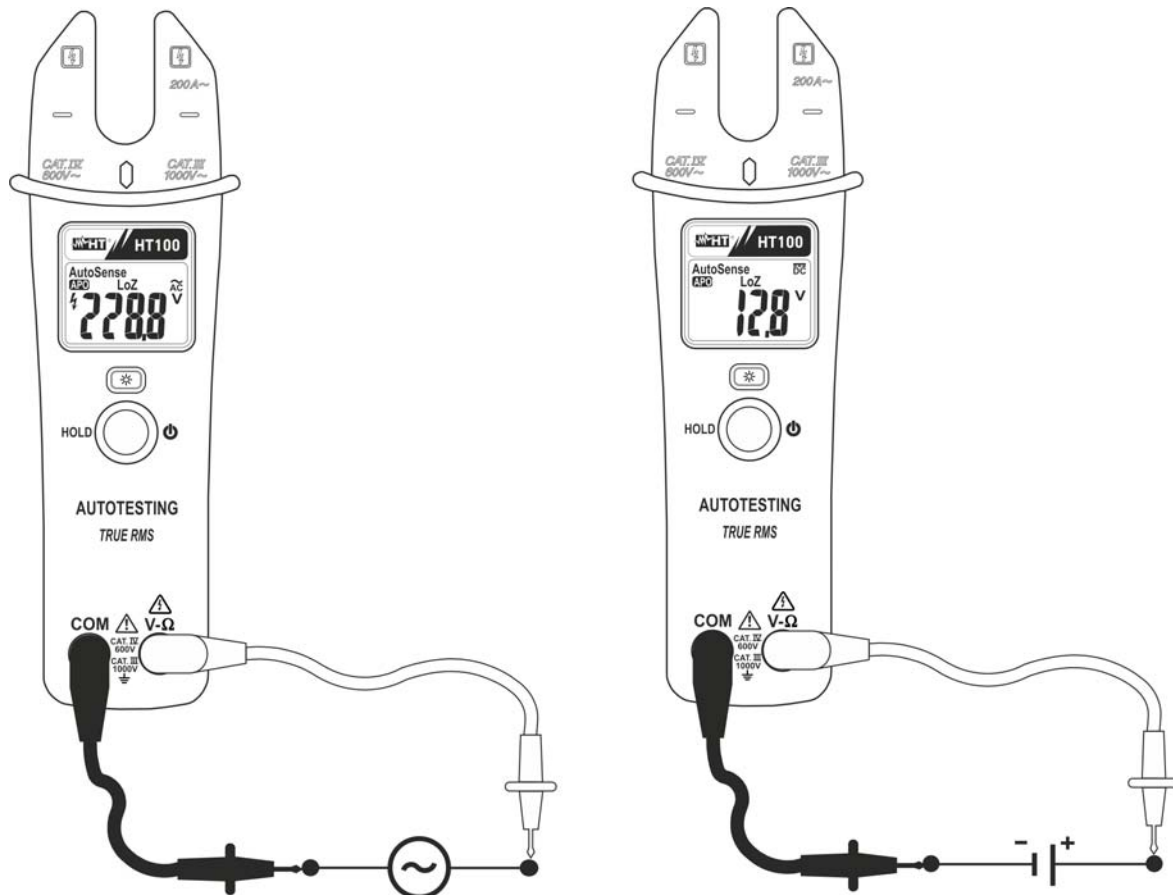

Fig. 3: Taking AC and DC voltage measurement
2. Connect the two long ends of test leads to the desired circuit (see Fig. 3) then reading will be displayed. The instrument selects automatically AC or DC notation depending on input voltage type
4. The “-” symbol at display means that the DC voltage have an opposite sign respect the connection of Fig. 3